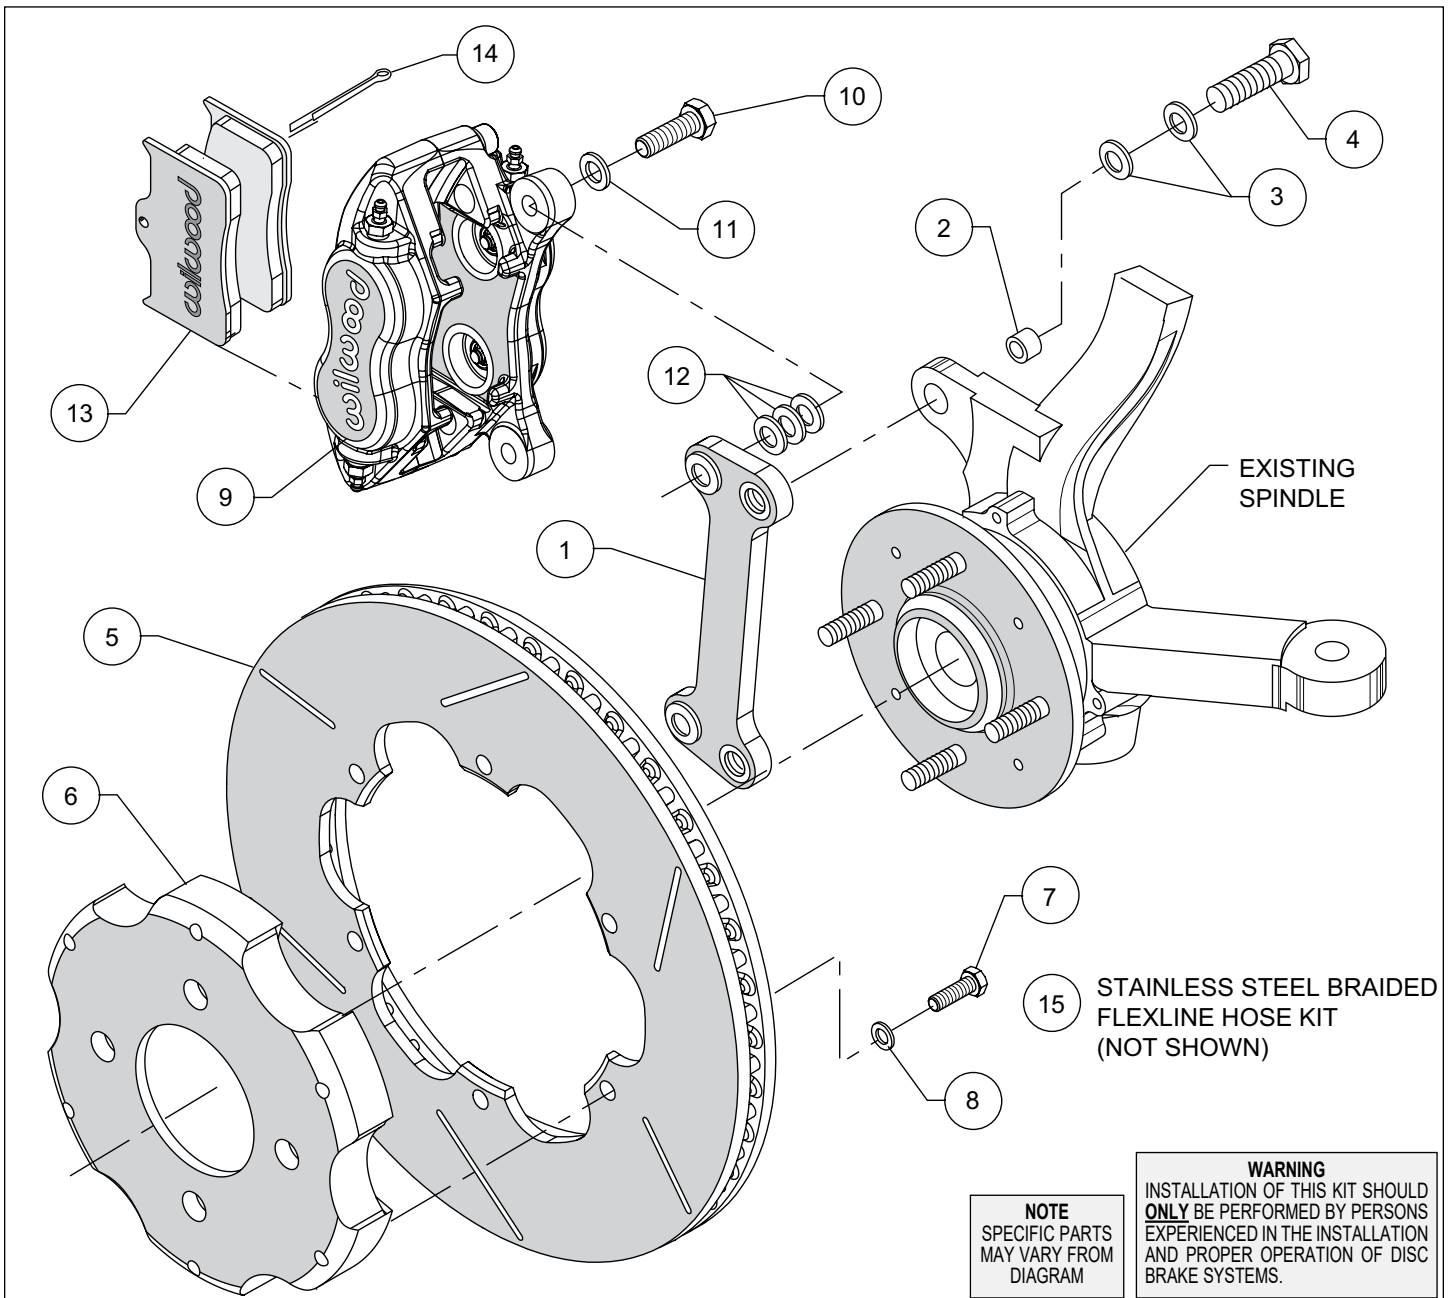
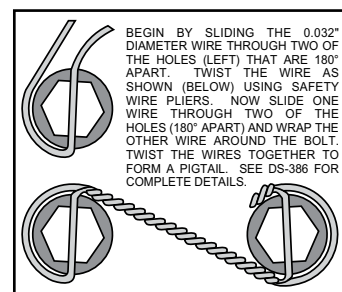
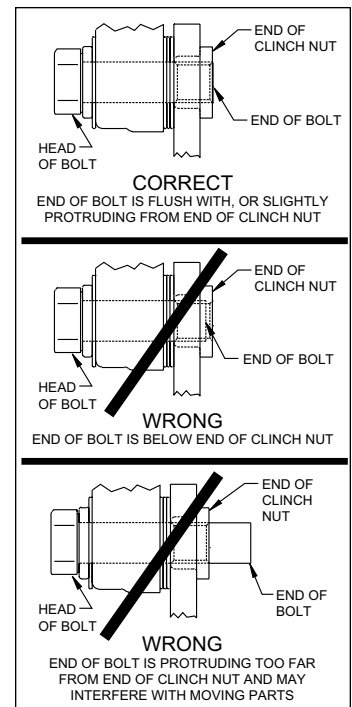

Figure 1. Typical Installation Configuration, Left Hand Application Shown
Figure 4. Safety Wire Diagram
Figure 5. Clinch Nut Engagement Diagram
**Assembly Instructions** (numbers in parenthesis refer to the parts list and Figure 1 on the preceding pages): **CAUTION:** All mounting bolts must fully engage clinch nuts. Be sure to check that all bolts are either flush or protruding through flanged side of clinch nut after shimming, Figure 5.
- Insert sleeves (2) into each of the two bracket mounting holes on the spindle "ears", Figure 1. Orient the caliper mount bracket (1) as shown in Figure 1, and install using bolts (4) and two washers (3). Ensure that the flanged heads of the clinch nuts in the bracket are facing outboard. Temporarily tighten the mounting bolts. **NOTE:** The bracket must fit squarely against the mount bosses on the upright. Inspect for interference from casting irregularities, machining ridges, burrs, etc. Remove bolts one at a time, apply red *Loctite*® 271 to the threads and torque to 40 ft-lb.
- Orient the rotor (5) and the hat (6) as shown in Figure 1 and Photo 1. Attach rotor to hat using bolts (7) and washers (8). Using an alternating sequence, apply red *Loctite*® 271 to the threads, and torque to 25 ft-lbs. Safety wire bolts using standard 0.032 inch diameter stainless steel safety wire as shown in Figure 4. Please refer to Wilwood's data sheet DS-386 (available at [www.wilwood.com/Pdf/DataSheets/ds386.pdf](http://www.wilwood.com/Pdf/DataSheets/ds386.pdf)) for complete safety wire installation instructions.
- **NOTE:** Please reference the caution statement at the beginning of the assembly instructions. Mount the caliper (9) onto the caliper mounting bracket (1) using bolts (10) and washers (11), as shown in Figure 1. Initially place three .035" thick shims (12) on each bolt between the caliper and the bracket, Photo 2. Temporarily tighten the mounting bolts and view the rotor (5) through the top opening of the caliper. The rotor should be centered in the caliper, Photo 3. If not, adjust by adding or subtracting shims between the bracket and the caliper. Always use the same amount of shims on each of the two mounting bolts. **NOTE:** The end of each bolt must be flush with or slightly protruding from the head of the clinch nut, as shown in Figure 5.
If necessary place spare shims (12) between washer (11) and caliper mounting ear to achieve the proper clinch nut engagement. Once the caliper alignment and clinch nut engagement are correct, remove the bolts one at a time, apply red *Loctite*® 271 to bolt threads, and torque to 40 ft-lb. For an added measure of safety, bolts may be safety wired using standard 0.032 inch diameter stainless steel safety wire as shown in Figure 4. Please refer to Wilwood's data sheet DS-386 (available at [www.wilwood.com/Pdf/DataSheets/ds386.pdf](http://www.wilwood.com/Pdf/DataSheets/ds386.pdf)) for complete safety wire installation instructions.